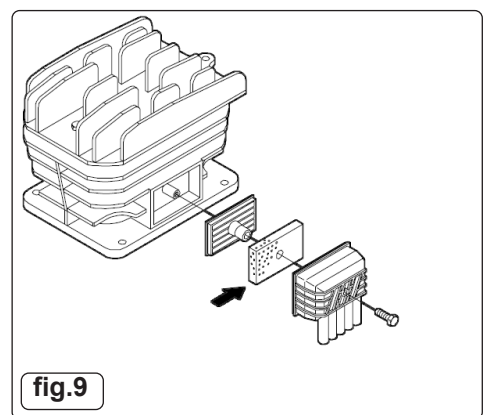

fig.9
- 4.9. Remove the plastic transit plug from the oil filler hole (fig.4) and replace it with the filler/breather plug. It is a push fit, ensure that it is pushed fully home. Make sure the drain valve under the air tank is closed, and the air filter shown in fig.9 is attached to the cylinder head.
- 6.4.1. The air filter prevents dust and dirt being drawn in. It is essential to clean the filter at least after every 300 hours in service. Clogged air filters will decrease the performance of the compressor dramatically. See fig.9.